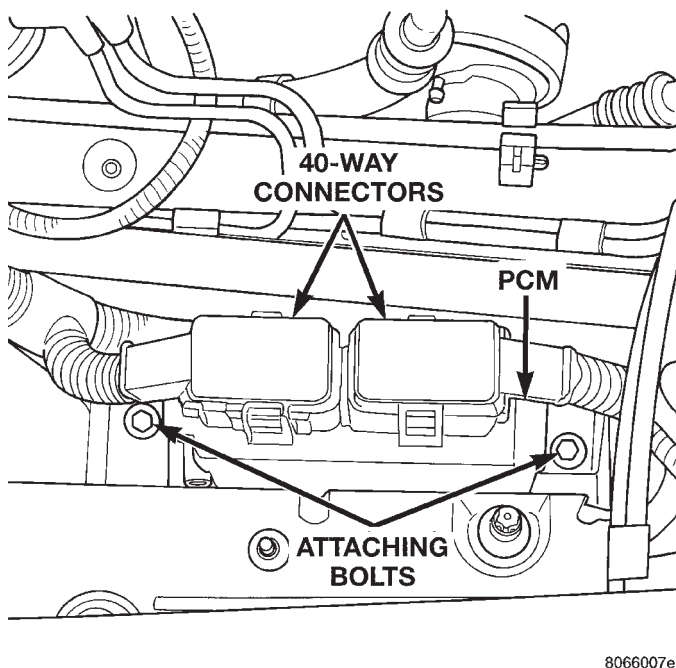

Fig. 78 PCM Location
- (1) Remove air cleaner.
- (2) Disconnect PCM 2 40-way connector (Fig. 78)
- (3) Remove 2 bolts from PCM bracket.
- (4) Remove PCM.